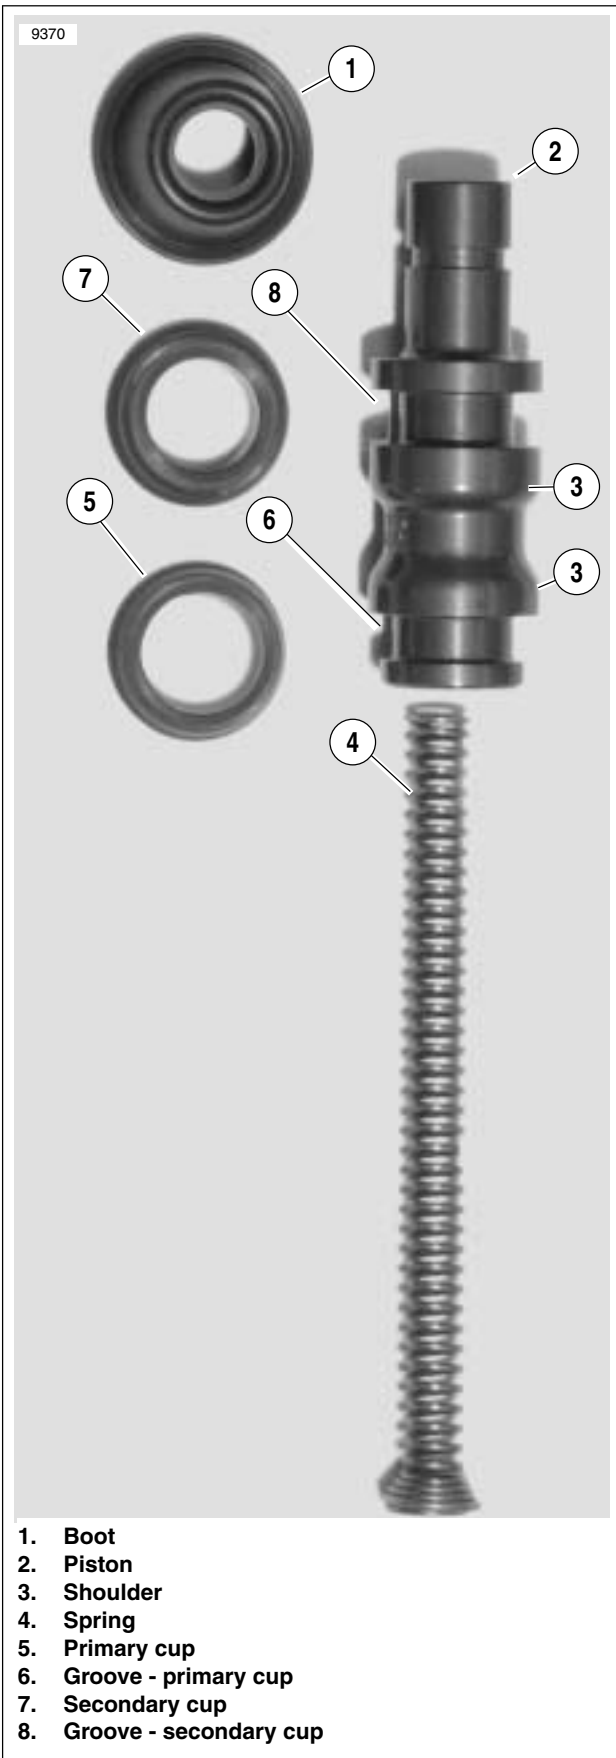

Figure 2-19. Clutch Master Cylinder Components
5. See Figure 2-19. Using a toothpick or small screwdriver, gently pry outer edge of piston boot out of piston bore.
1. See Figure 2-19. Lightly lubricate inside of primary cup and fit over lip on spring end of piston so the closed end (small ID) contacts evenly with the shoulder in primary cup groove.